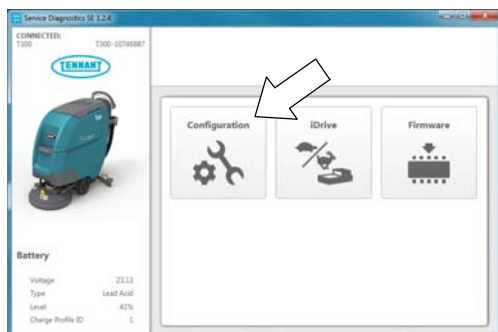

Fig. 11
- Check for loose wire connectors at new control board. Reconnect the application software to machine and check the machine configuration selections for incorrect installed options. When the software is reconnected to machine, the Home page will now appear (Figure 11). Select the Configuration button.